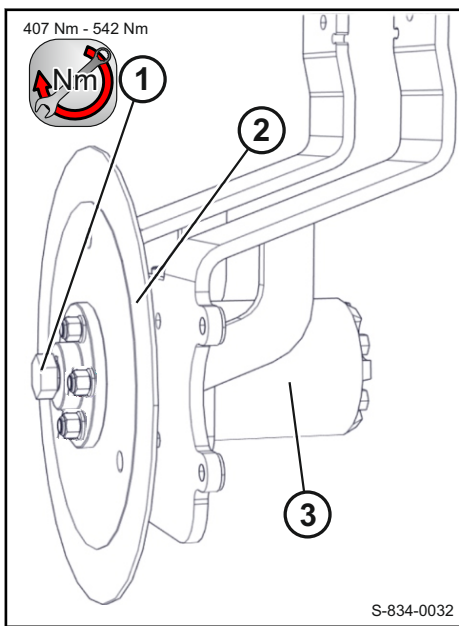

Fig. 264
3. Mount drive disc 2 ↗ Fig. 264 with fastening nuts (1) to the travel motor (3).
4. Mount parking brake 1 ↗ Fig. 264 with screws (2) and washers to the support leg.